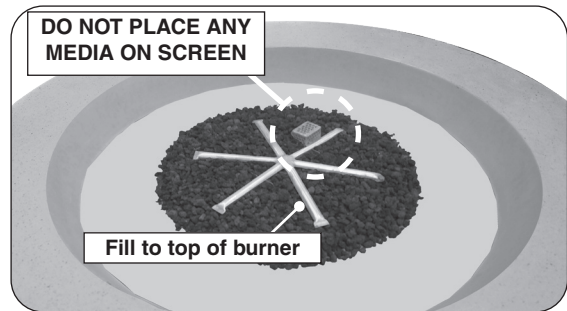
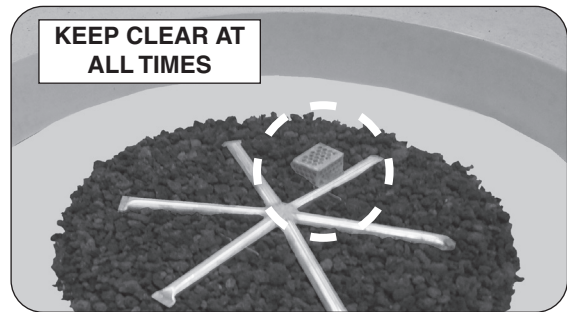

Fig. 32-1 Place lava granules
Fig. 32-2 Screen detail
1. Pour the 10 lb bag of lava granules into the burner area (with the exception of the screen). Spread the granules within the burner area as shown in Fig. 32-1 and Fig. 32-2. **Only fill the granules up to the top of the burner tube.**
Note: Select 12" star burner models only require half of the lava granules bag. **Do not overfill.** See Fig. 32-1 and Fig. 32-2.